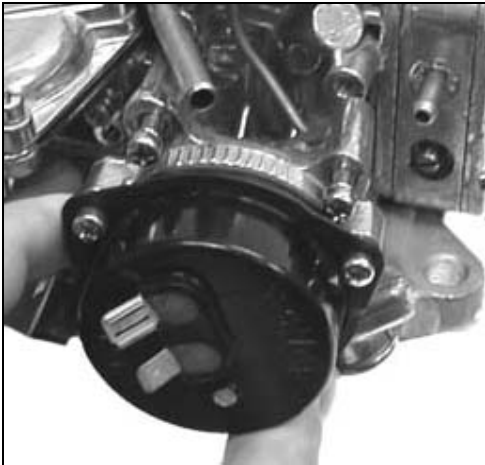

Figure 13
1. Remove the choke cap (electric choke) and choke housing (manual and electric choke) to gain access to the third screw retaining the vacuum diaphragm to the main body (Figure 13).